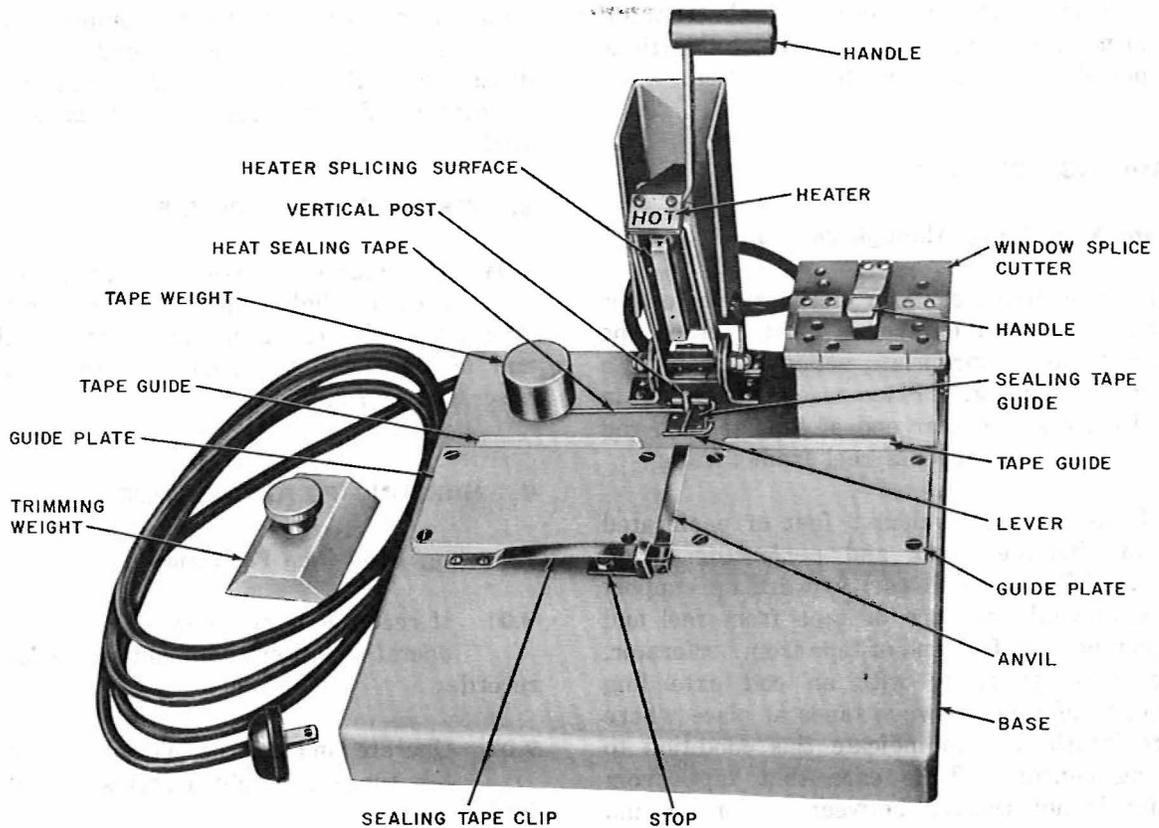

Fig. 3—604C Tape Splicer
6.01 When there are two lengths of tape in the same carton, each length is separately banded. Do not remove bands at this time and proceed as follows. Place one length across upper shelf of splicing table in line with and directly under guide plates (Fig. 3) of splicer. Place the other length on lower shelf of splicing table in line with and directly under tape on upper shelf. Pull out three folds of tape from the top of each pile of tape. Pull tape from right side of tape on lower shelf and from left side of tape on upper shelf. Take care not to tear tape when pulling it from under the bands.